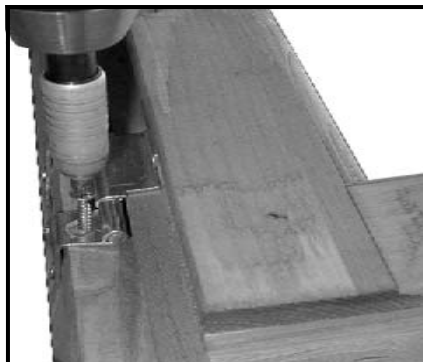

Fig A15
25. Open the window fully in order to fit a further 2x 25mm screws per hinge ( Fig. A15).